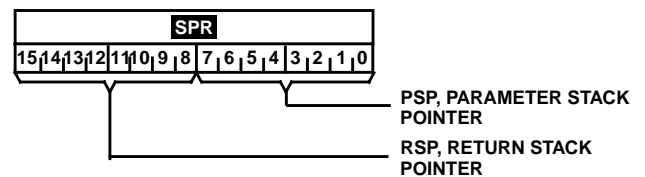

FIGURE 15. **SPR** BIT ASSIGNMENTS
**SPR**: The Stack Pointer Register holds the stack pointer value for each stack. Bits 0-7 represent the next available stack memory location for the Parameter Stack, while bits 8-15 represent the next available stack memory location for the Return Stack. These stack pointer values must be accessed together, as **SPR**. See Figure 15.
The operation of the Programmable Stack Controllers depends on the contents of three registers. These registers are **SPR**, the Stack Pointer Register, **SVR**, the Stack Overflow Limit Register, and **SUR**, the Stack Underflow Limit Register (see Figures 15, 16, and 17).